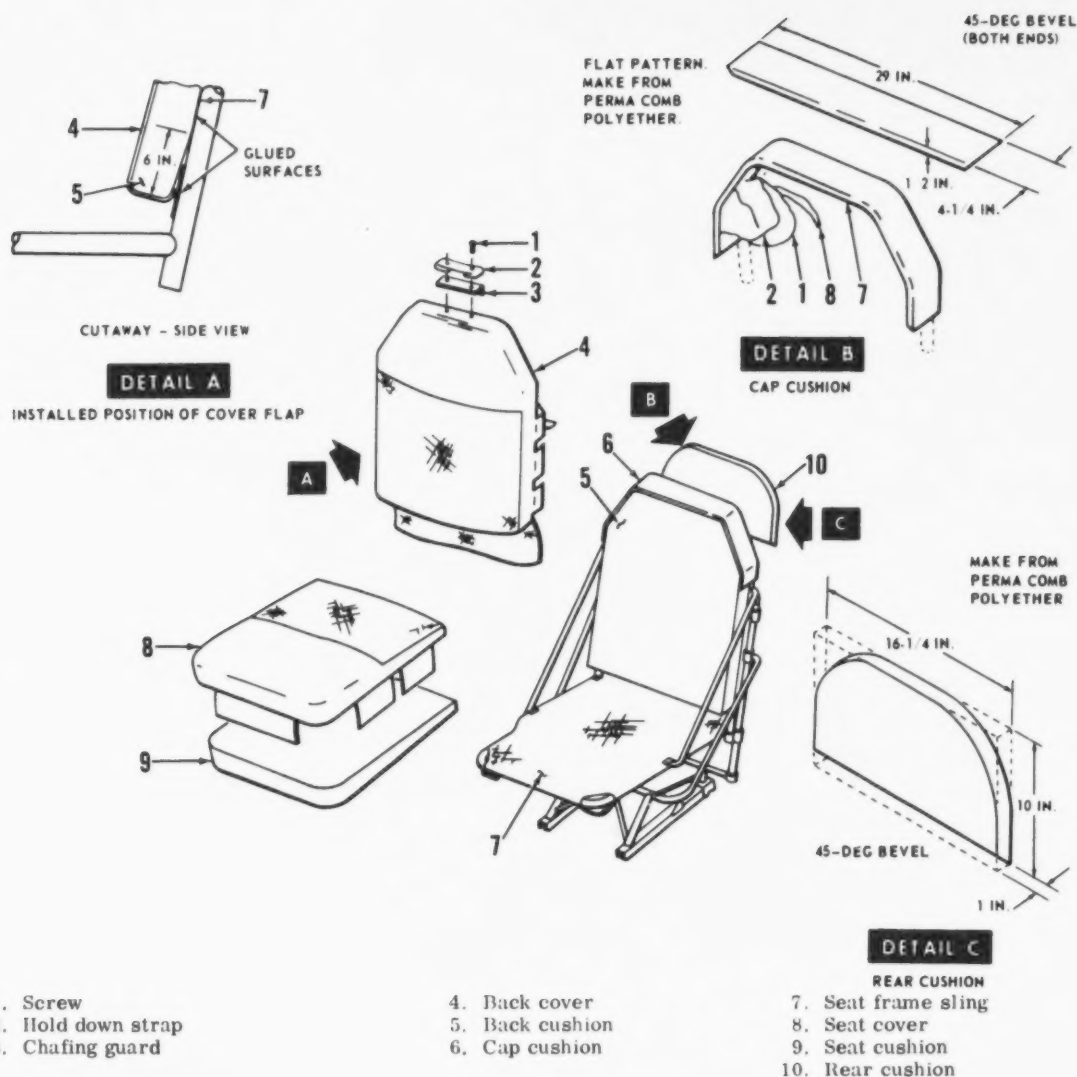

Figure 4-24. Pilot's and copilot's seat upholstery (U-8F)
a. Removal. (1) Remove seats from aircraft in accordance with paragraph 4-159.
(2) Remove armrests by removing bolts, bearings, washers, and nuts.
(3) Remove screws (1, figure 4-24), shoulder harness hold-down strap (2), and chafing guard (3) from top of seat back.
(4) Remove screws securing upholstered pan to back of seat frame. Remove pan.
(5) Pull cemented tabs and flaps of seat back cover (4) loose from seat frame assembly.
(6) Pull cemented back cushion (5) and cap cushion (6) from seat frame sling (7).
c. Inspection. (1) Inspect seat covers for fraying, tears, and loose stitching.
(2) Inspect foam rubber cushions for wear or visible damage.
d. Installation. (1) Apply cement (item 76, table 1-8) to rear side (firm side) of foam rubber back cushion (5, figure 4-24) and secure cushion into place on seat frame sling (7). (See view A, figure 4-24.)
(2) Make cap cushion (6) from 1/2-inch thick perma comb polyether as shown in view B, figure 4-24.
(3) Apply cement to bottom and rear surfaces of cap cushion (6).
(4) Press cushion into place above seat frame so that forward edge of cushion is flush with forward surface of back cushion (5) and aft part of cushion is rolled around seat frame. (See view B, figure 4-24.)
(5) Cut rear cushion (10) from 1-inch thick piece of perma comb polyether as shown in view C, figure 4-24.
(6) Spread cement (item 76, table 1-8) on inside surface and edges of rear cushion and press cushion into place on seat frame sling (7).
(7) Sprinkle talc (item 54, table 1-8) on cushions (5, 6, and 10) and inside back cover (4) so cover will slide over cushions easily.
(8) Place cover over seat back and, while pulling cover down over cushions, work out wrinkles and straighten seams.
(9) Brush a light coat of cement (item 76, table 1-8) across inside surface of lower cover flap.
(10) Pulling cover taut, work flap under bottom edge of seat back cushion and press cemented surface against seat frame sling. (See view A, figure 4-24.)
(11) Apply cement (item 76, table 1-8) to back of cover side tabs.
(12) With cover stretched firmly across cushion, wrap side tabs around seat frame tube and press them into place.
(13) Coat inside surface of rear flap with cement (item 76, table 1-8).
(14) Press cemented surface onto seat frame sling and smooth out wrinkles.
(15) Insert seat cushion (9) through cutout in seat cover (8), positioning firm side of cushion down. Carefully smooth out all wrinkles and straighten seams.
(16) Apply a thin coat of cement (item 76, table 1-8) under each cover tab.
(17) Position cushion and cover assembly on seat frame sling (7) and wrap tabs tightly around seat frame tube.
(18) Install armrests at lower armrest hole in seat frame and secure with bolts, bearings, washers, and nuts. Armrests equipped with ashtrays fit on inboard side of seat with respect to centerline of aircraft.
(19) Secure shoulder harness chafing guard (3) and hold down strap (2) to top of seat back with screws. Upholstery will need to be perforated with a scribe or similar tool to accommodate screws.
(20) Attach pan to back of seat frame with screws.
a. Removal. (1) Remove pilot's or copilot's seat from aircraft in accordance with paragraph 4-159.
(2) Remove screws securing pan to seat frame. Remove pan.